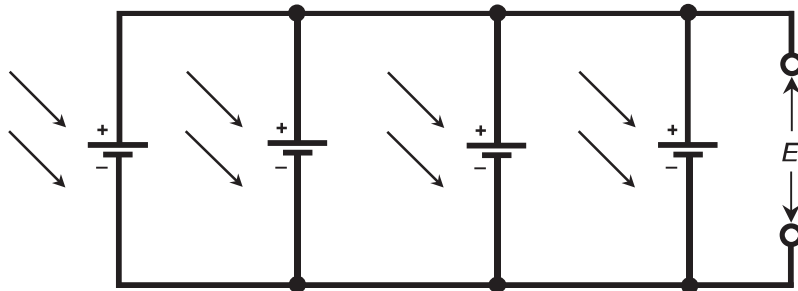

Fig. Exam-1. Illustration for Final Exam Questions 8 through 12.
8. Figure Exam-1 shows a set of 4 identical components connected in
9. Suppose each of the components in Fig. Exam-1 supplies 0.6 V. What is the voltage E ?
10. Suppose each of the components in Fig. Exam-1 delivers 50 mA. What is the total current delivered by the combination at the output terminals?
11. Suppose each of the components in Fig. Exam-1 delivers 30 mW. What is the total power delivered by the combination at the output terminals?
12. Each of the 4 interconnected components shown in Fig. Exam-1 is